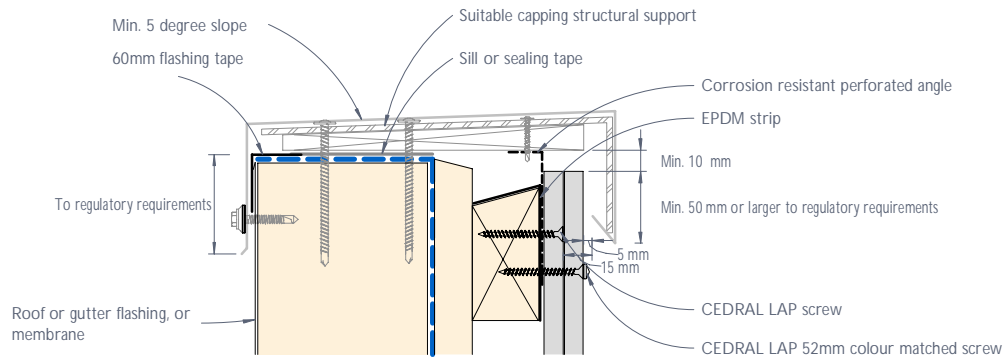

Figure 29: CEDRAL LAP typical capping detail
- 3) Capping shall be designed and engineered accordingly to provide adequate allowance for ventilation as shown in Figures 29 & 30.